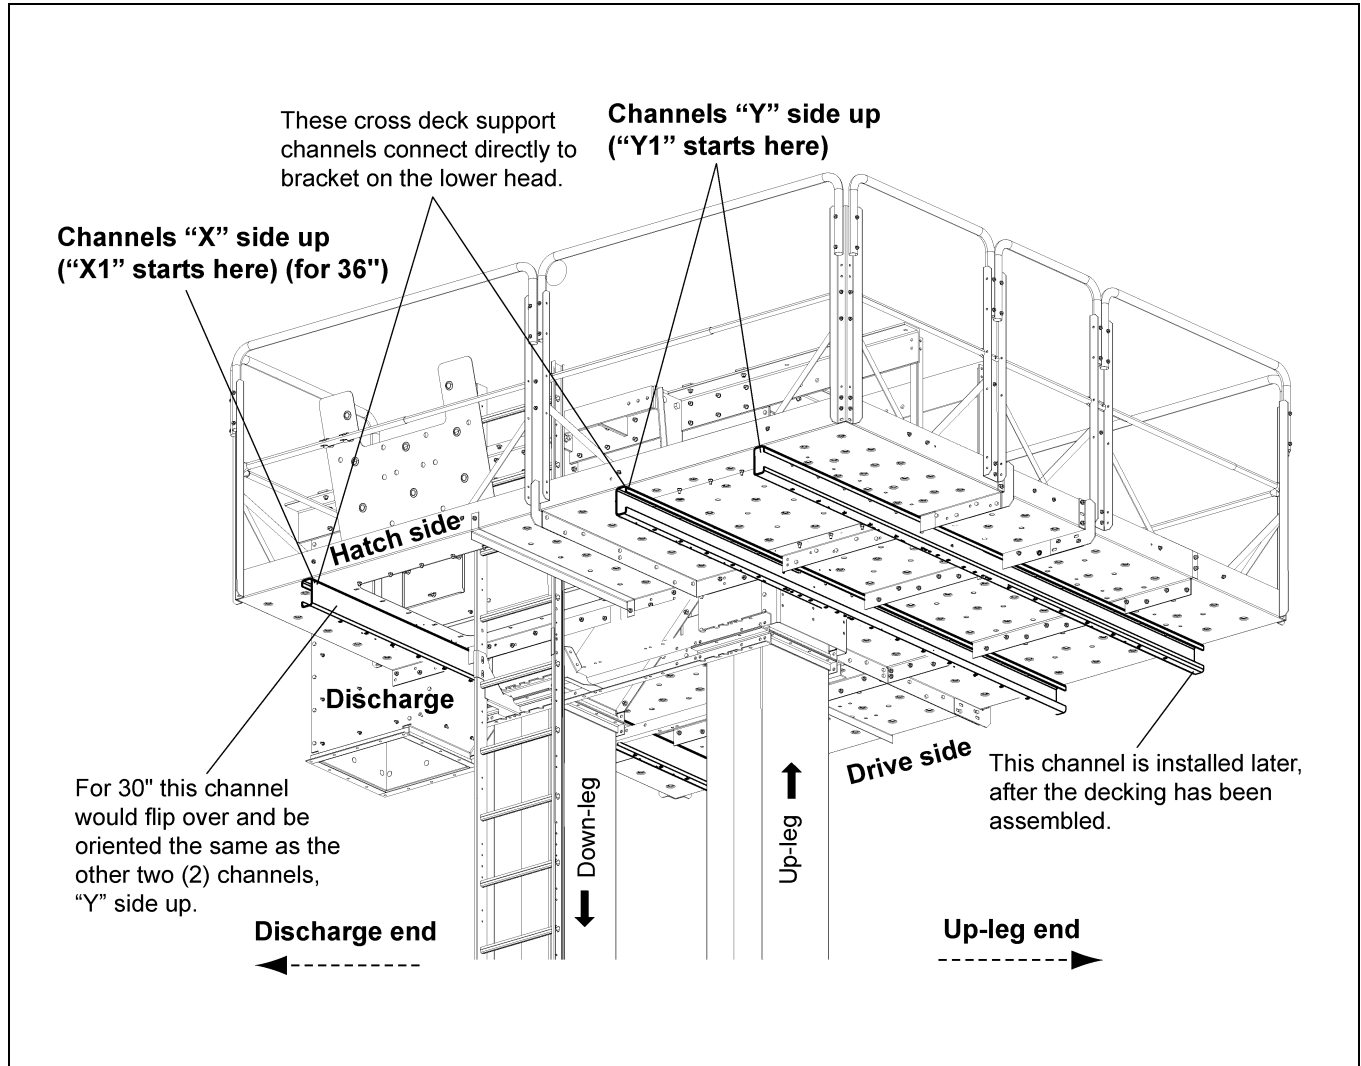

Figure 8A 30"-36" Platform Overview
Three (3) cross deck support channels support the platform. Two (2) of the channels are attached to brackets on the lower head section and the third channel is attached to the decking itself but is not attached directly to the lower head. This third channel will be attached after the deck is assembled. (See Figure 8A.)